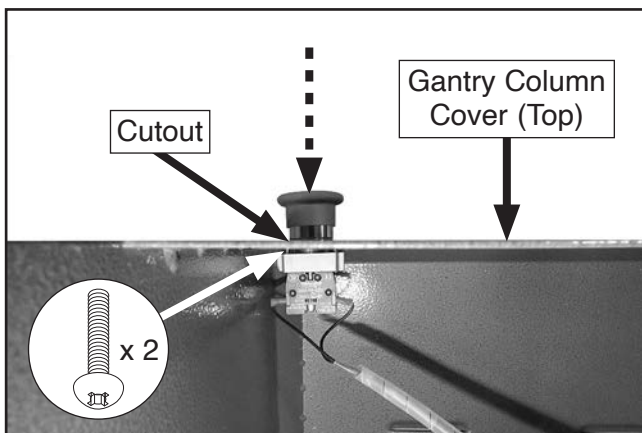

Figure 42. EMERGENCY STOP button installed.
12. Insert EMERGENCY STOP button head through cutout in gantry column cover and into button base, then turn button head clockwise until secure (see **Figure 42**).
13. Tighten (2) Phillips head screws on EMERGENCY STOP button base until they are snug against gantry column cover (see **Figure 42**).